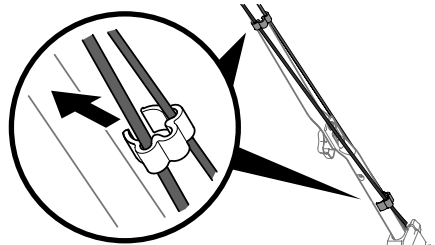

Figure 11
**NOTE:** On select units, use the two cable clips provided to secure blade control and drive cables to lower handle (Figure 11).